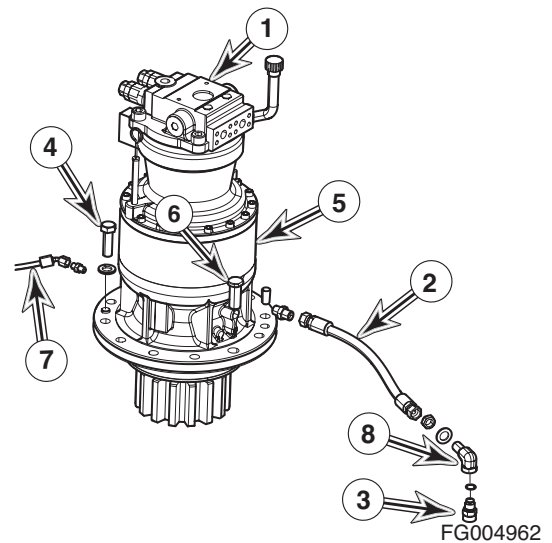

Figure 3
11. Tag and disconnect hoses from swing motor (1, Figure 3). Plug and cap hoses and ports to prevent contamination from entering hydraulic system or component.
12. Remove drain plug (3, Figure 3) from elbow (8) and drain oil from reduction gearbox (5, Figure 3).
13. Reassemble drain plug (3) to elbow (8) and disconnect hose (2, Figure 3) from reduction gearbox (5).
14. Disconnect grease lubrication line (7, Figure 3) from reduction gearbox (5).
15. Remove twelve bolts and washers (4, Figure 3) holding swing reduction gearbox (5) to frame.
16. Using a suitable lifting device, sling swing motor (1, Figure 3) and remove swing motor and reduction gearbox (5) as an assembly from unit.
NOTE: *There are two alignment pins (6, Figure 3), on reduction gearbox flange.*